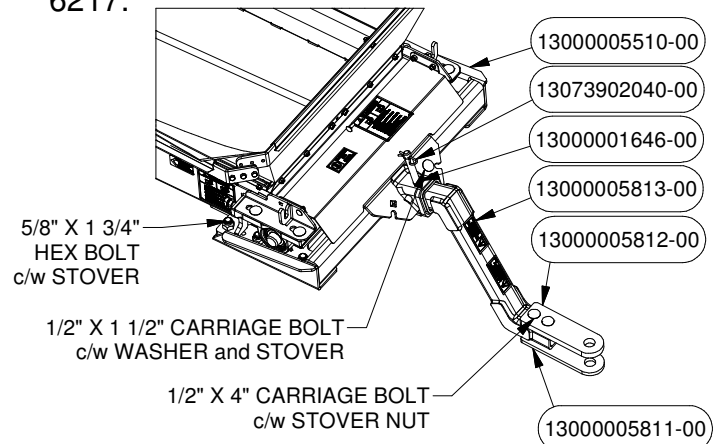

FIGURE 20
36. Attach the Hitch PN# 5510 to the Intake using Hex Bolts c/w Nylock Nuts as shown in Figure 20.
Attach the Drawbar PN# 5813 to the Hitch and lock it using a Pin PN# 1646 and Safety Chain PN# 7863 (see Figure 20).